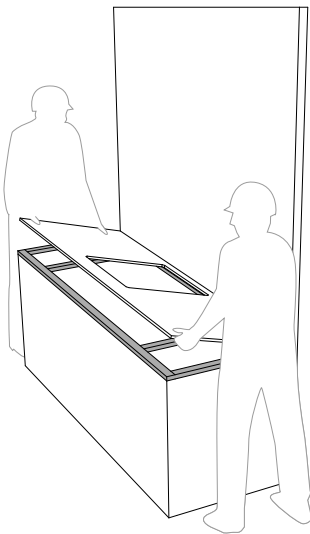
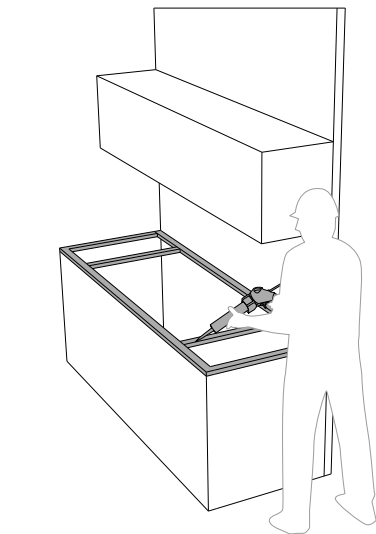

fig. 3
fig. 4
- **12 mm e 20 mm:** a slatted structure with crossmembers uniformly distributed along the entire perimeter can be used (fig. 3). In the event that the countertop includes one or more cutouts, additional reinforcements must be provided for the areas subject to the greatest stress (fig. 4);
- Lay the countertop by sliding it horizontally (fig. 3).
- Lay the countertop by sliding it from the outside inward (fig. 3).